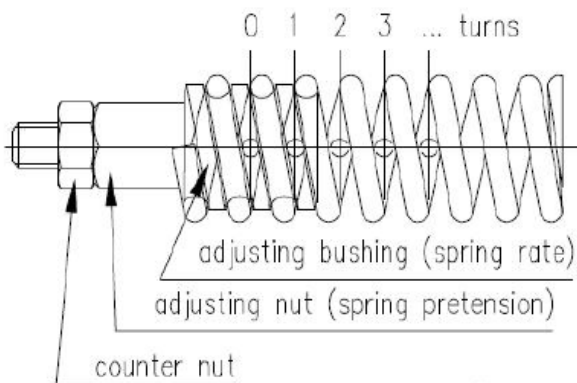

Figure 5. spring pretension adjustment
- Loosen the counter nut, the adjustment nut and the screw on the adjusting bushing (see Figure 5).